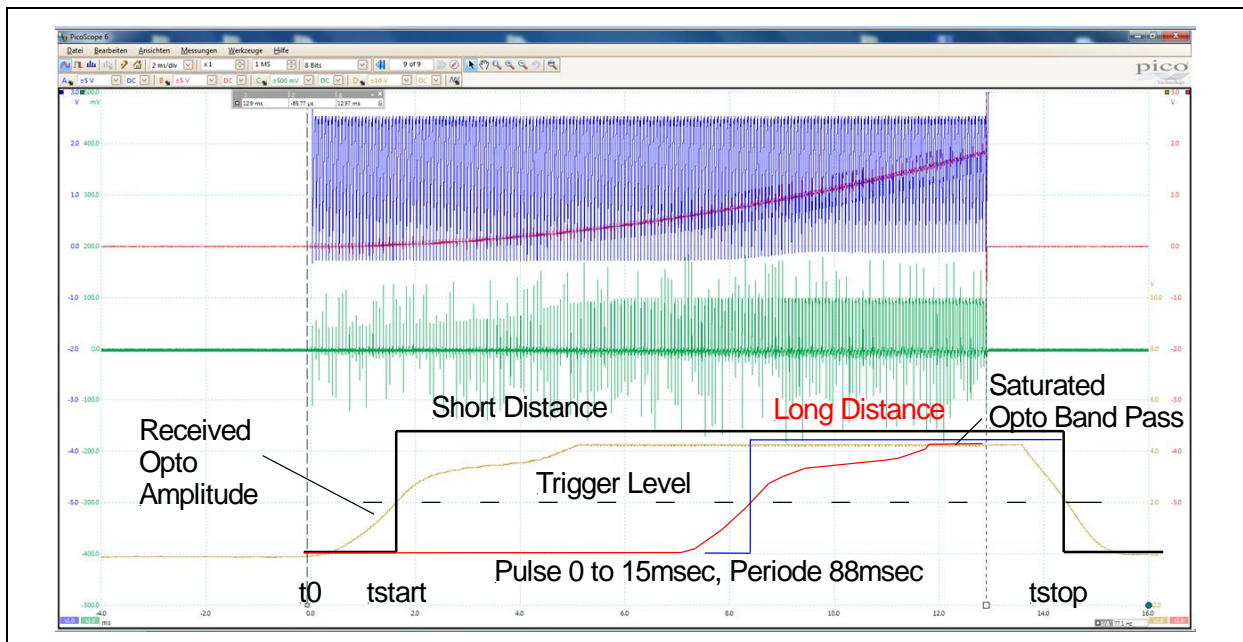

Fig. 7. IR Transmission distance about 3m, Time Scale 2msec/Div.
5.2. Details of transmission/reception at 0, 5 and 10msec, same settings as in Fig. 7: